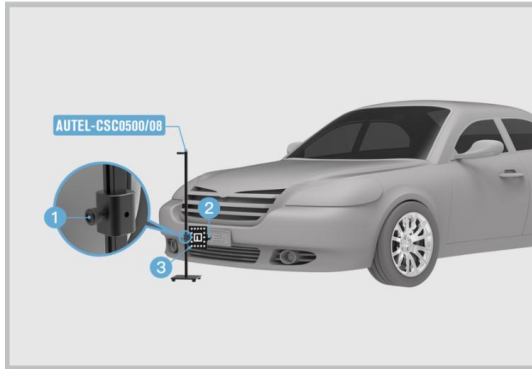

Figure 3-15 Place the Distance Measuring Target
1. As shown in Figure 3-15, place the alignment aid AUTEL-CSC0500/08 in front of the vehicle. Loosen the bolt (①) to adjust the height of the target so that it is roughly at the same height as the center of the license plate. Then tighten the bolt (①) to secure the target.
2. Move the distance measuring target to ensure the pointer (②) of the target touches the license plate and is aimed at the center of the license plate as precisely as possible. The white dotted side of the panel (③) should face the driving direction of the vehicle.